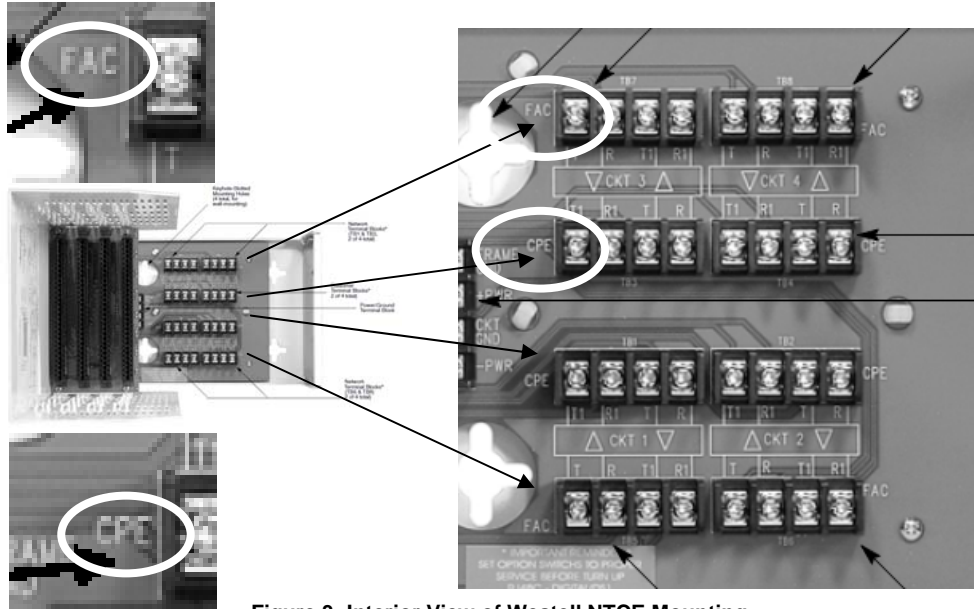

Figure 3: Interior View of Westell NTCE Mounting
1.5.4 Connect pairs from the “In” side of the 25-pair protector block to the **FAC** screw terminals of the NTCE Mounting (aka NIU Housing) per Figure 3 on page 4.
- 1.5.5** Connect pairs from the **CPE** screw terminals of the NTCE Mounting (aka NIU Housing) to the 66-block per the **laminated chart** located on the inside of the door panel of the cabinet, or as supplied with the backboard, per Figure 3, below.